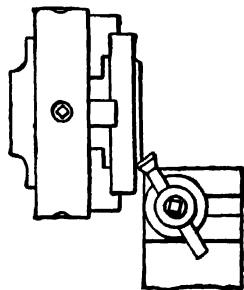

Fig. 15-14. Radial facing.
**Radial Facing.** The term *radial facing* may be applied to the truing of the faces of work of a comparatively large diameter when held in a chuck or on a faceplate (Fig. 15-14). The shovel-nose tool may be used for the roughing cut. When using this sort of a tool or a similar tool, face from the circumference of the work toward the center. When finishing, an ordinary turning tool or side tool, whichever is preferred, may be used. In radial facing, care must be taken that there is little or no end motion in the main spindle bearings. Also, to prevent the tool working away from the cut, and thus producing a surface which is not flat and true, it is necessary to tighten the carriage clamping screw. A much better finished appearance may be obtained on cast iron if the chip is very light and the feed is very coarse. A square-nosed tool makes an excellent cast-iron finishing tool. It is good practice when facing steel in a lathe to apply a suitable amount of lard oil or other cutting compound with a brush. Cast iron and brass are machined dry.